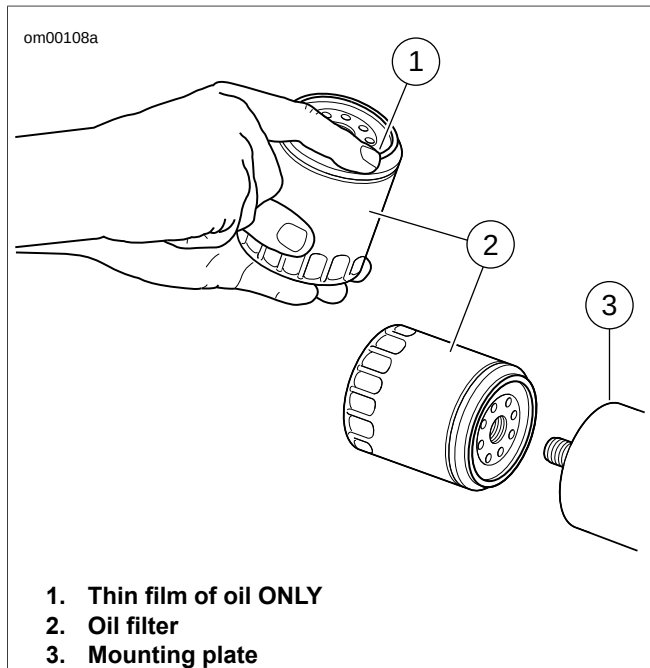

Figure 1-7. Applying Thin Oil Film
2. See Figure 1-7. Wipe filter gasket contact surface of oil filter mount with a clean cloth. Surface should be smooth and free of any debris or old gasket material.
3. Apply a thin film of oil to gasket contact surface on crankcase (3) and gasket surface of **new** oil filter.